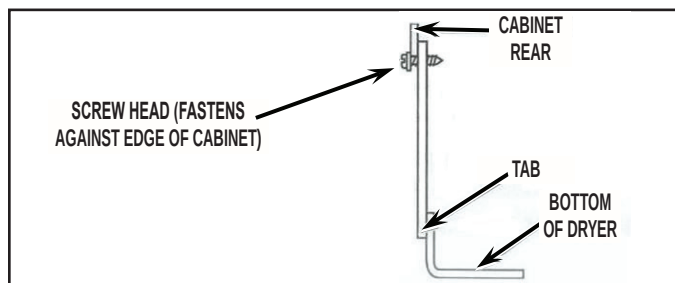

FIGURE 13
16. Use screw included with kit to secure plate in position by driving the retaining screw into the plate's smaller hole to lock the plate in position as shown in *Figure 13*.